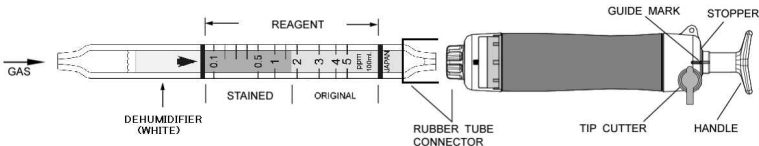

Fig.1
- ① Break both ends of the detector tube.
- ② Insert the detector tube into the aspirating pump securely as shown in Fig.1. (Arrow mark shall point to the pump.)
- ③ Align the guide marks on the shaft and stopper of the aspirating pump.
- ④ Pull the pump handle at a full stroke until it locks and wait for 1 minute or until the completion of sampling is confirmed with the flow indicator of the pump. (See descriptions about the flow indicator in the instruction manual of the pump.)
- ⑤ On completion of sampling, read the scale at the maximum point of the stained layer.
- ⑥ When the concentration is below the scale range, 2 or 5 pump strokes can be used to determine the lower concentrations. Then multiply the reading value by 1/2 or 1/5 respectively.